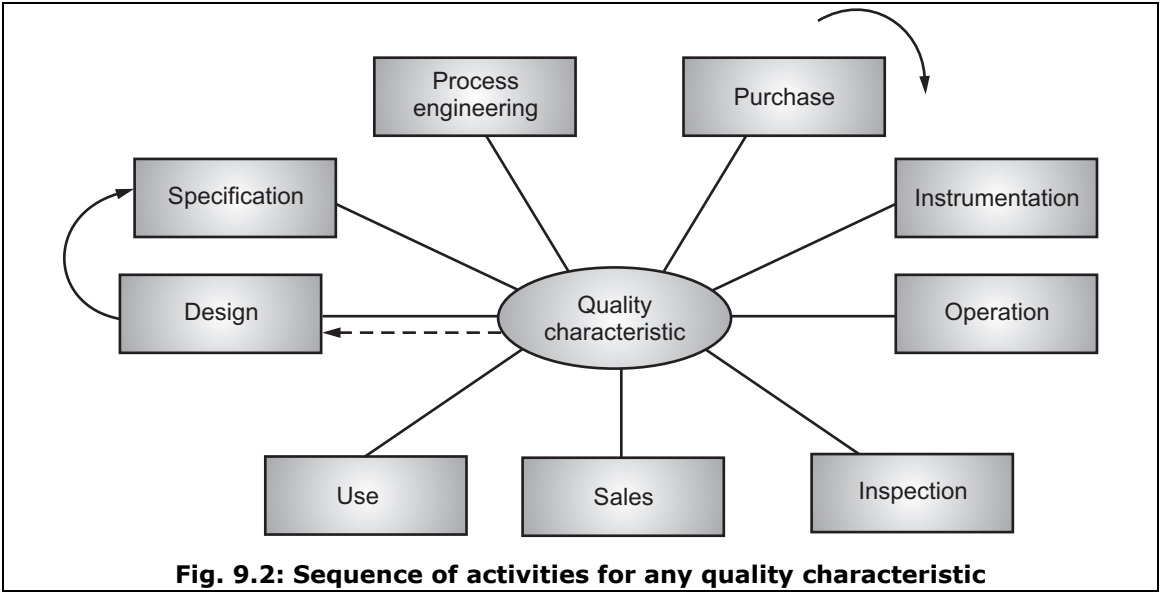

Fig. 9.2: Sequence of activities for any quality characteristic
- Fig. 9.2 shows the sequence of activities performed for each quality characteristic.